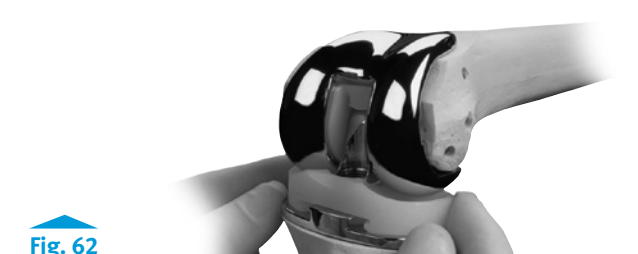

Fig. 62
- While maintaining contact with the femoral condyles, slide the articular surface posteriorly until it rests on the Tibial Base Plate (Fig. 62).